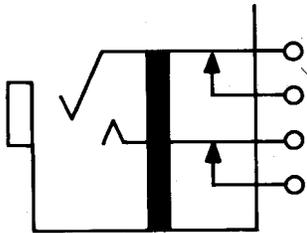

Fig. 22—572A or C Jack
2.22 572A and C: These single-mounted jacks (Fig. 22) are heavily insulated and have bifurcated "break" contacts and solderless wrap terminals. These jacks are designed to be used with the 150, 184, 202, 213, 262, 310, 320, 331, and 338 type plugs. These jacks are intended to be mounted with the springs in a vertical plane. These jacks are used with the DDD-Type Toll Offices.